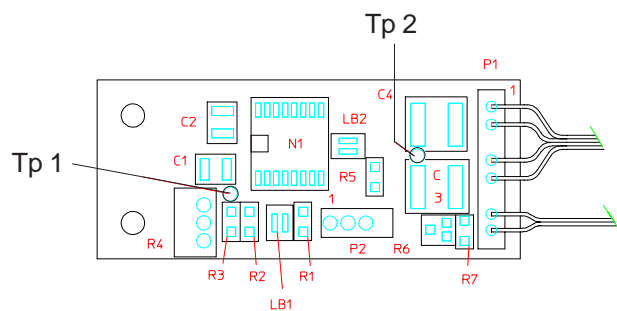
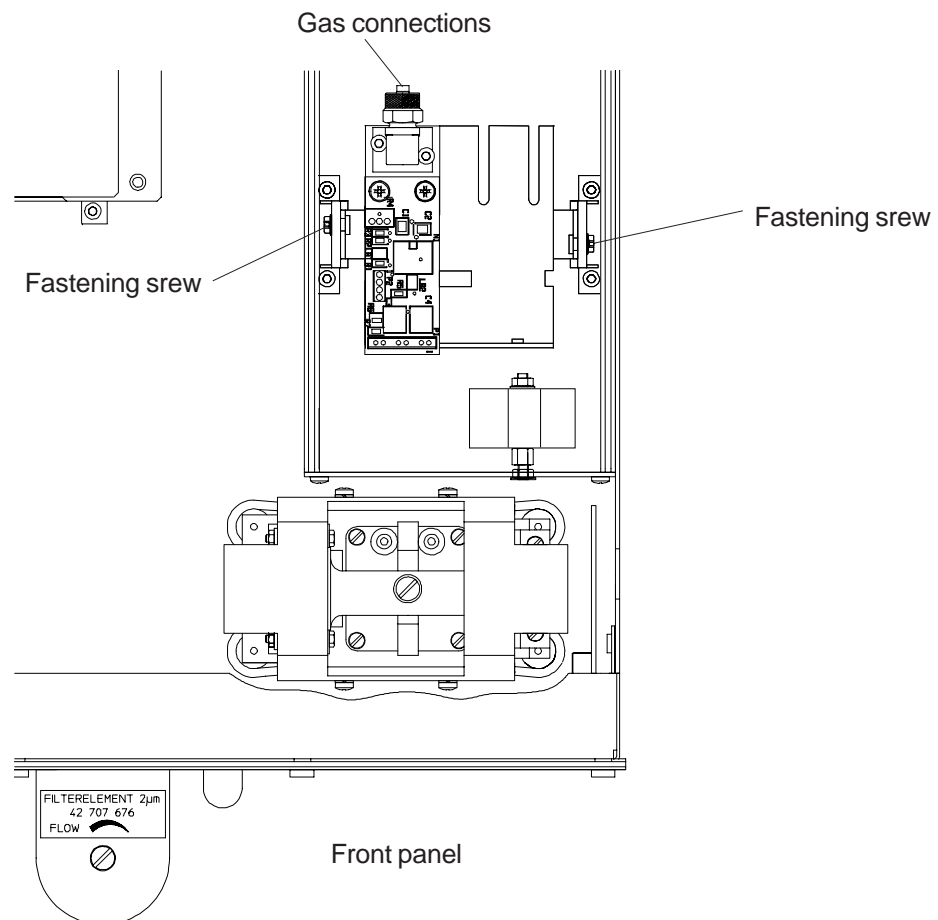
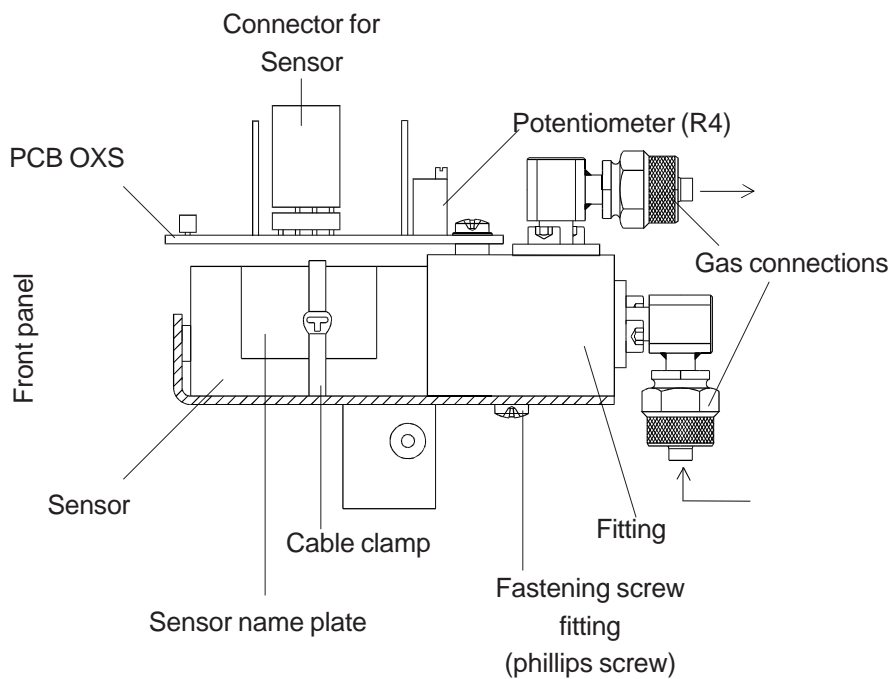

Fig. 23-1: PCB "OXS", assembled, horizontal projection
Fig. 23-2: Inside View BINOS® 100 2M
Fig. 23-3: Sensor support BINOS® 100 2M
Tp 1 (Signal) and Tp 2 (⊥) of the PCB OXS, mounted directly at the connection block (Fig. 23-1, see also Fig. 23-2, 1-1 and 1-2).
- Unscrew both allen screws (fastening screws, see Fig. 23-2).
- Remove the complete support (see Fig. 23-1) to the top of the analyzer.
- The cable clamp (see Fig. 23-3) is to cut through.
- Unscrew both fastening screws for the fitting (phillips screws, see Fig. 23-3).
- Remove the fitting including the sensor (see Fig. 23-3).
- Put the fitting with the (new) sensor onto the support, move to the stop and screw with the two fastening screws (phillips screws, see Fig. 23-3)
- Fix the sensor with a cable clamp at the support (see Fig. 23-3).
- Insert the complete support (see Fig. 23-3) into the analyzer and screw with the two allen screws (fastening screws, see Fig. 23-2).
- Reconnect all gas lines to the fittings (see Fig. 23-2 and Fig. 23-3).